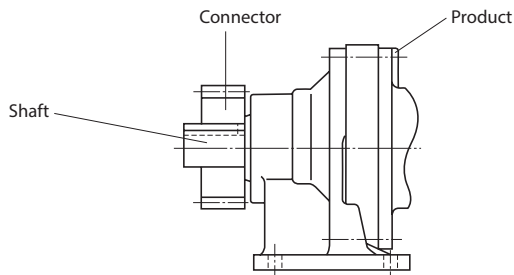
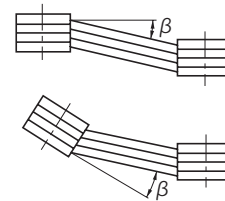

Figure 5-2
Figure 5-3
(2) When using chains, sprockets, or gears
- The working load point of the sprocket or gear should go from the center of the shaft to this product. (See figure 5-2)
(3) When using a V belt
- The parallelism, eccentricity β of the two pulleys should be within 20° . (See figure 5-3)